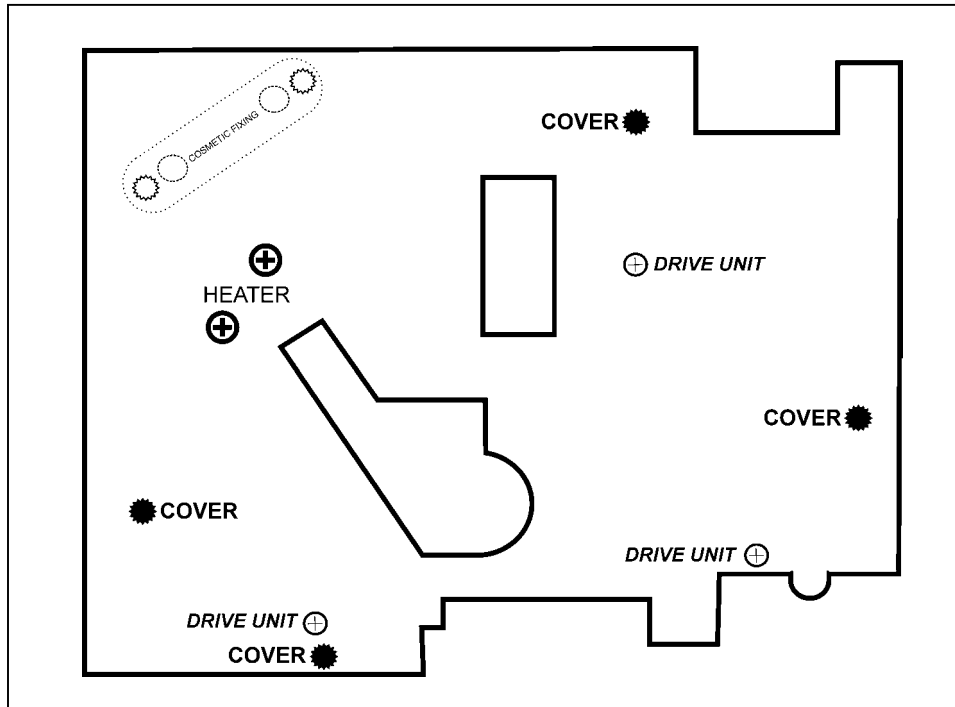

Figure 5-32: Front Plate Assembly with Retaining Screw Locations.
16. Refer to Figure 5-32. Remove the two Hot Water / Coffee Heater Screws; Separate the Heater from its mounting position.
17. Refer to Figure 5-32. Remove the two "Cosmetic Fixing" screws. Remove the Cosmetic Fixing from inside the appliance.
24. Remove all remaining screws from the Front Plate Assembly. Lift upward on the Front Plate Assembly to access the screws near the bottom of the plate. Use Figure 5-32 to locate all screws.